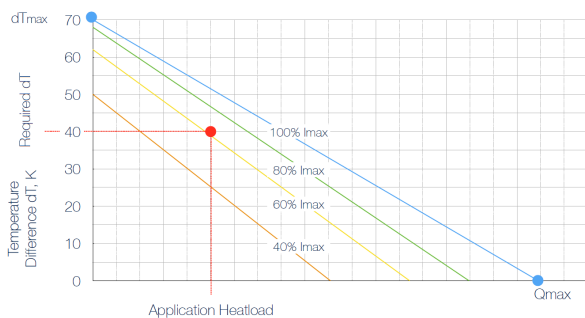
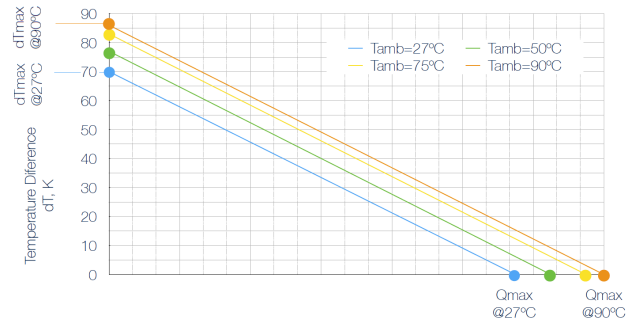

Fig. 1 - Understanding dT_{max} and Q_{max}
Fig. 2 - Single-stage TEC dT_{max} and Q_{max} example
3. TEC dT_{max} is specified at zero heatload, while Q_{max} is specified at zero dT (check Fig.1 for example). TEC dT_{max} and Q_{max} values raise with ambient temperature (check Fig. 2 for example). Please, use RMT TECCad for additional info, or contact RMT specialists directly.